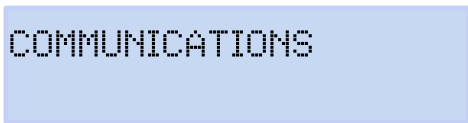

Figure 45: Communications display menu, main screen.
**Figure 45** shows the main screen of the **Communications** display menu, showing full information about the device's active communications.